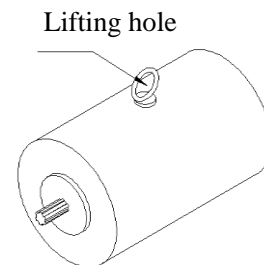

Figure 2-31
(5) Figure 2-31 shows the lifting of the walking motor.